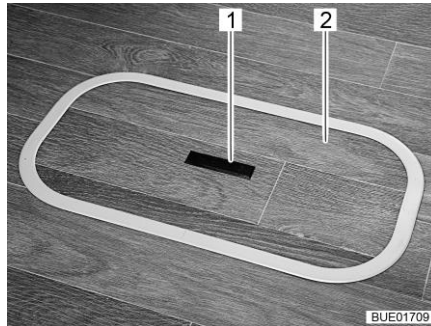
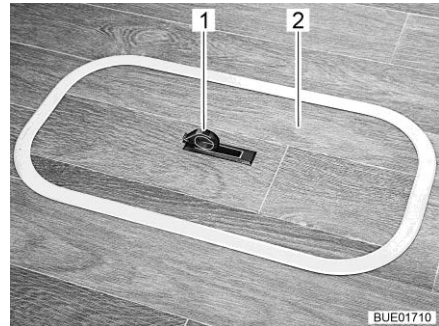

Fig. 76 Floor compartment cover
Fig. 77 Floor compartment cover
- Push one side of the grip plate (Fig. 76,1) downwards. The handle (Fig. 77,1) swivels upwards.
- Remove the cover (Fig. 76,2 or Fig. 77,2) upwards.